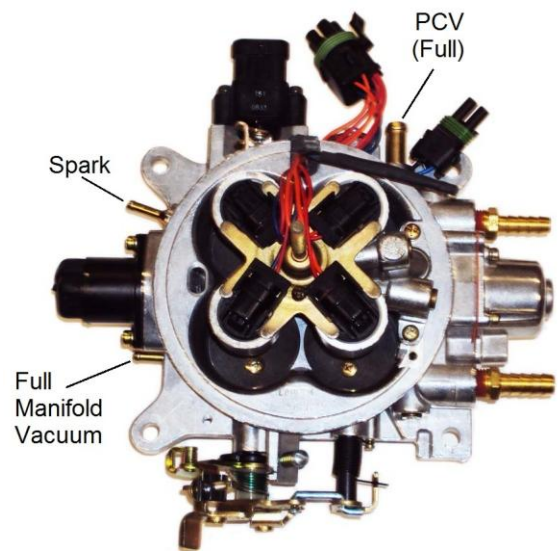

Figure 2
1. The MAP sensor must be installed as close to the vacuum source it is connected to as possible. It must be connected to a "full manifold vacuum" port. This is a vacuum source below the throttle body plates. The throttle body has a full manifold port that the sensor can be connected to (see Figure 2). It is best not to "tee" multiple items into the port that supplies the MAP sensor. The sensor should be mounted such that the vacuum port on the sensor is pointed at some downward angle above the vacuum source so that moisture does not collect in the sensor itself.
2. Install vacuum hoses to the appropriate port on the throttle body. Use the diagrams made during removal of the existing fuel system to locate the correct port. The vacuum ports of the throttle body are labeled in Figure 2.